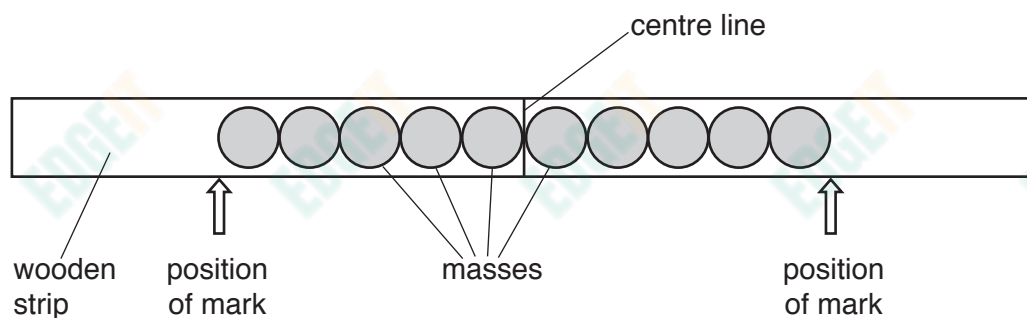

Fig. 2.1
Place the ten slotted masses along the strip, as shown in Fig. 2.1.
- (ii)** Using the pen, make a small mark on the edge of the strip at each end of the row of masses, as shown in Fig. 2.1.